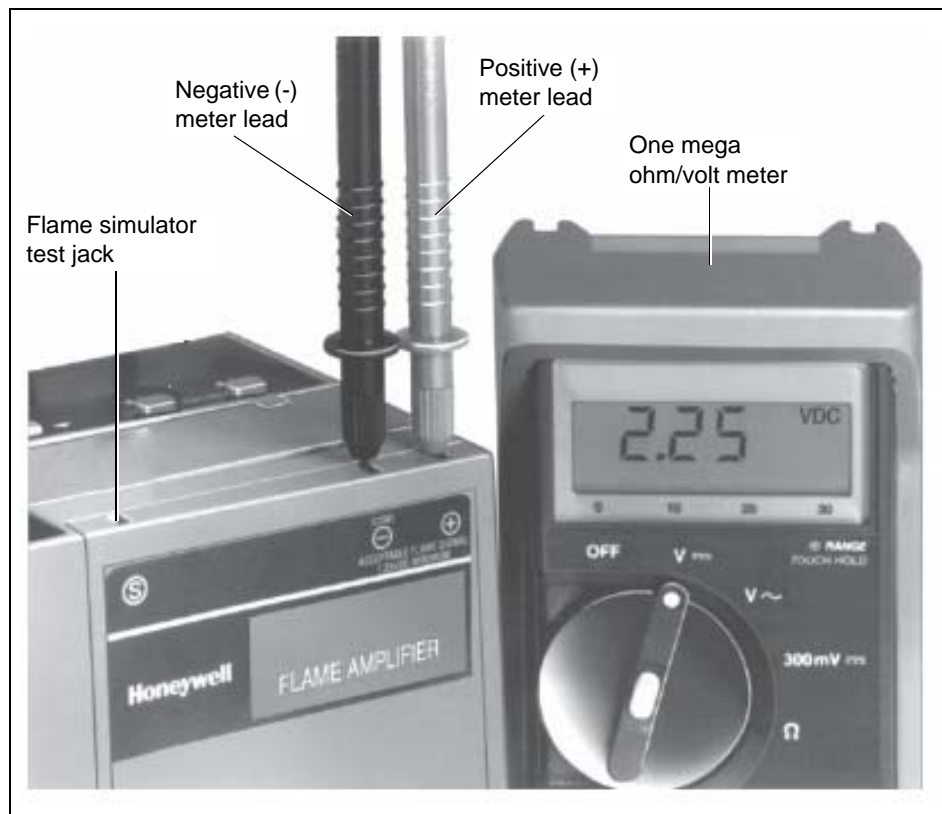

Figure 7C Honeywell Test Flame
- b. Flame signal can be checked at the Honeywell burner control, located in the main power panel, as shown in Figure 7C on Page 45.